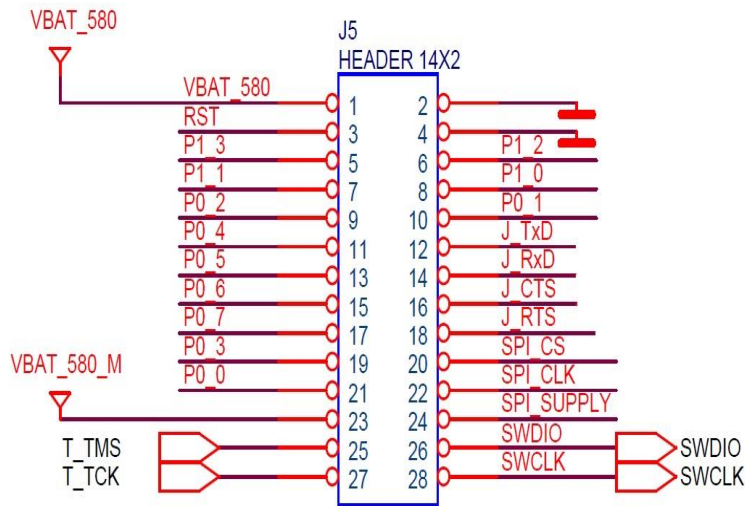

Figure 4: Jumper J5 Layout
**Figure 1** illustrates the physical layout of the ProDev Kit motherboard. The daughter-board containing DA14585/586 device is shown in **Figure 4**.
Figure 4 shows the layout of the header jumper, J5.